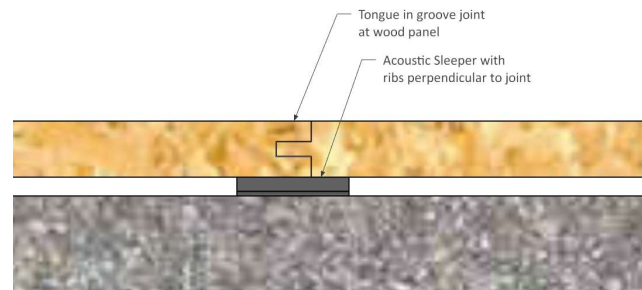

Figure 6: Typical Tongue-in-Groove Joint
- Fig. 6: Typical T&G Joint. When pads are stapled to underside of subfloor panel and grooved edge is trailing, set pad in so staple does not block groove.